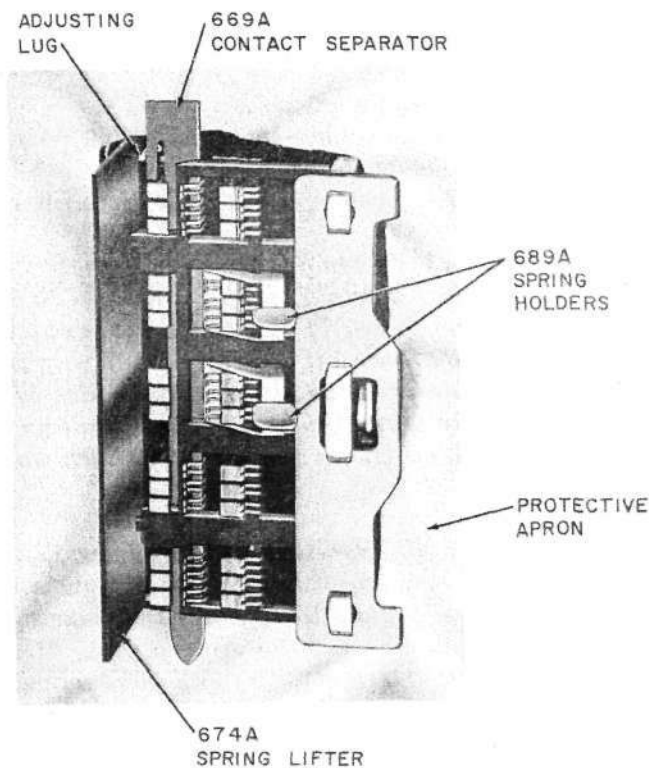

Fig. 4—287- and 288-Type Relay—Preparing Relay for Replacing Fixed Contacts in Left Vertical Row
3.22 *Disengaging Balancing Spring Legs:* Place the 674A spring lifter against the right side of the cover spring and the ends of the balancing spring legs with the bevel toward the card. Hold the card toward the right with the KS-6320 orange stick, and move the spring holder slightly to the left to disengage the balancing spring legs from the card. Then insert the spring lifter between the adjusting lugs and the cover spring and balancing spring legs until the outer edge of the lifter is in line with the outer edge of the cover spring. Push the card inward against the core plate using the orange stick. Figure 4 shows the 674A spring lifter in position.
on the orange stick. Keep the separator vertical so the movable contact springs will remain in their proper horizontal positions, and move the separator downward or upward, as required, only far enough to separate all contacts in the 3-position group below the group in which the fixed contact is to be replaced. However, if the card is pushed forward due to the separator touching adjacent apparatus, insert the separator sufficiently to clear the apparatus. Figure 4 shows the separator in position for replacing fixed contacts in the left vertical row.
3.28 If the top of bottom fixed contact of a 3-position group is to be replaced, insert a second 689A spring holder, as covered in 3.27, in the 3-position group adjacent to the contact to be replaced. Figure 4 shows two 689A spring holders in position.